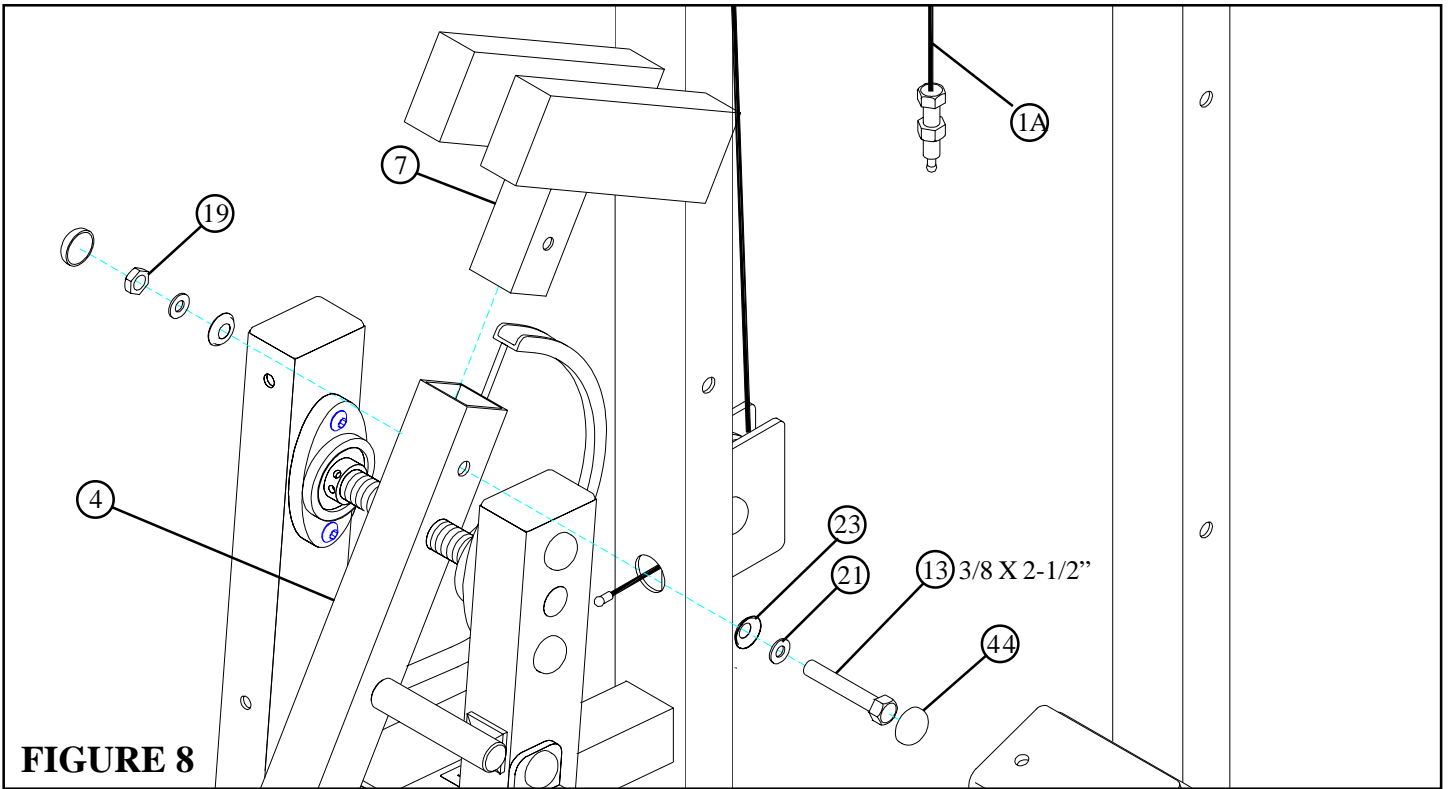

FIGURE 8
- **SECURELY** assemble the COUNTERBALANCE (7) to the PIVOT ARM (4) using two RH CAPS (44), one 3/8 X 2-1/2" BOLT (13), two 3/8" SAE WASHERS (21), two 3/8" RH WASHERS (23) and one 3/8" LOW HEIGHT LOCK NUT (19) as shown in FIGURE 8.